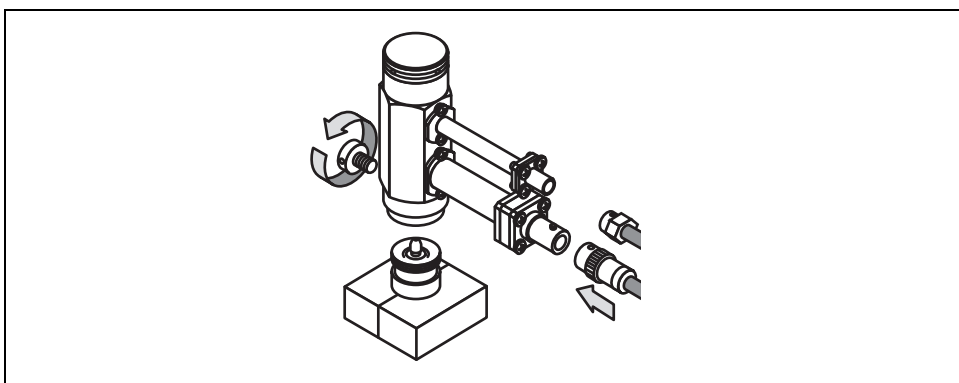

Figure 15-18. Clean/Replace the Collecting Electrode (3)
13. Place the detector cell on the base body and tighten the fixing screw. See Figure 15-18.
14. Reconnect the signal and ignition cables to the detector. See Figure 15-18.